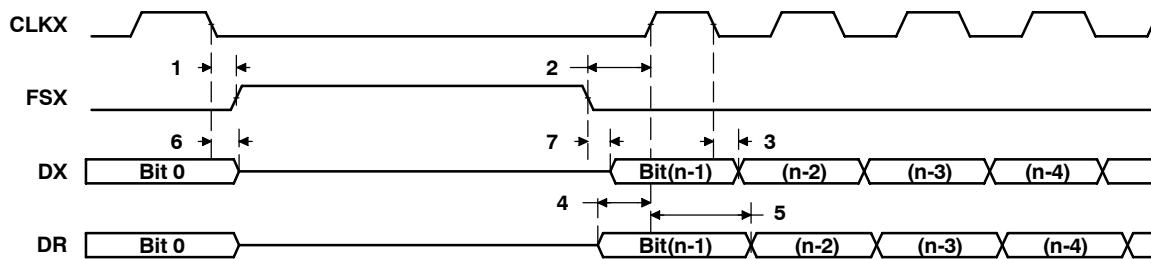

Figure 37. McBSP Timing as SPI Master or Slave: CLKSTP = 11b, CLKXP = 0
**timing requirements for McBSP as SPI master or slave: CLKSTP = 11b, CLKXP = 0†‡ (see Figure 37)**
**switching characteristics over recommended operating conditions for McBSP as SPI master or slave: CLKSTP = 11b, CLKXP = 0†‡ (see Figure 37)**